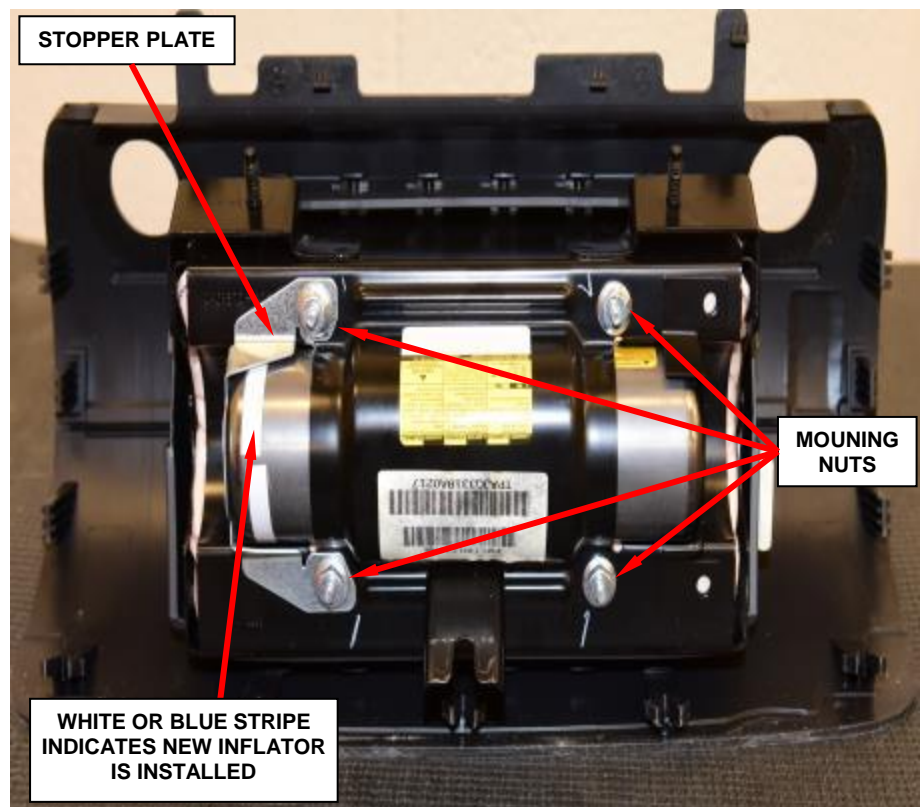

Figure 182 – Retrofit Complete
- o. Install the stopper plate to the airbag module (Figure 182).
- p. Install the four new mounting nuts to the airbag module and tighten to 62 in. lbs. (7 N·m) (Figure 182).
- q. Passenger airbag retrofit is complete (Figure 182).